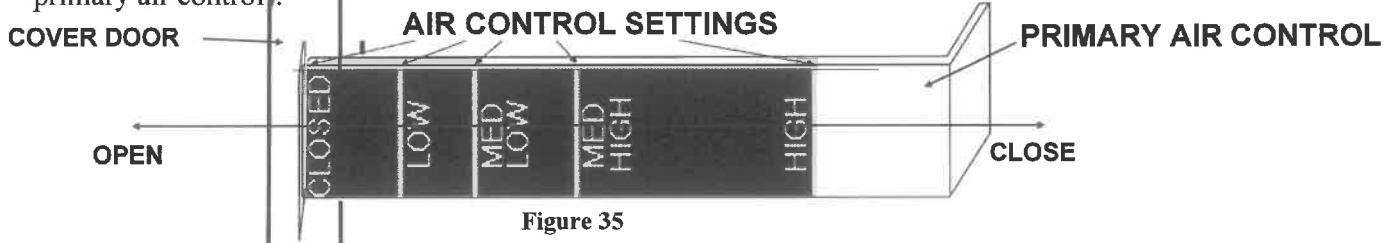

Figure 35
2. Open primary air control. Primary air intake draft control is located at center bottom side of hearth. It is operated by moving handle **IN** to open (to allow air into firebox) or **OUT** to control or close off the firebox. (Figure 35 primary air control).